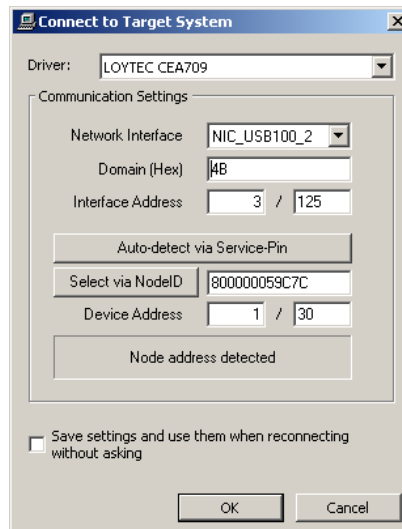

Figure 82: Connect via CEA-709
- **CEA-709:** Select the network interface to use and fill out all other fields, see Figure 82. Alternatively, select the network interface and press Auto-detect via Service-Pin. Then press the service pin on the device. Note that this connection method requires an installed LOYTEC network interface.